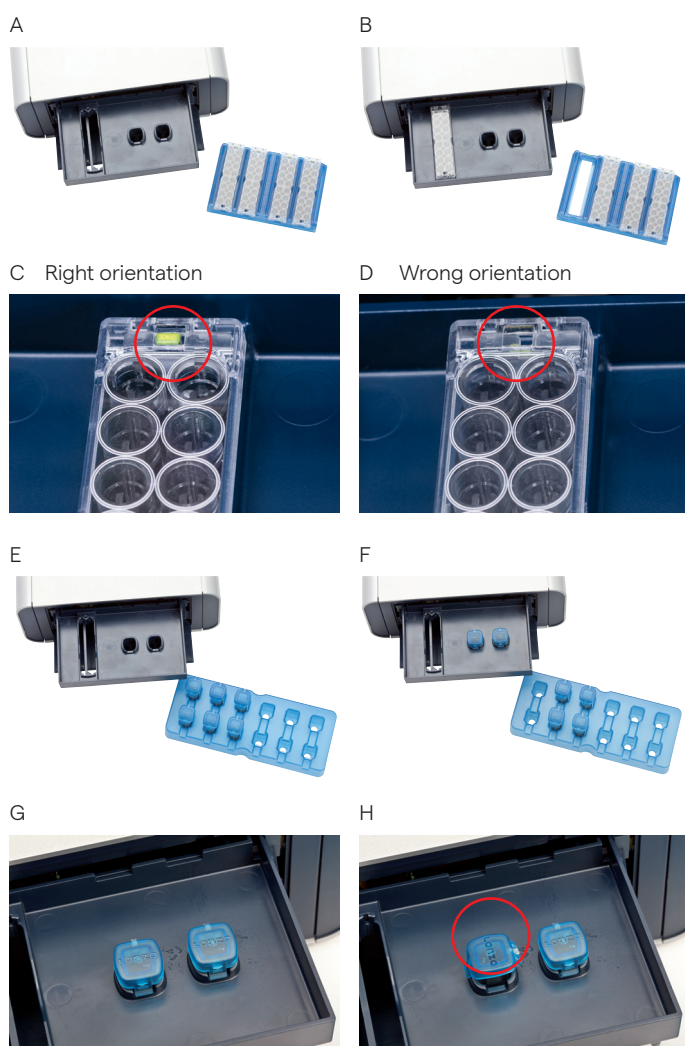

Figure 2.17: Loading vessels into 4D Nucleofector® X Unit
1. Load the 16-well Nucleocuvette® Strip (Figure 2.17, A, B) or one or two 100 µL Nucleocuvette® Vessels into the sample tray (Figure 2.17, E, F)
For the 16-well Nucleocuvette® Strip, the yellow pin at the rear end of the strip must be visible (Figure 2.17, C). If the strip is mounted in the wrong orientation, its rear end will stay above the strip holder and the yellow pin is barely visible (Figure 2.17, D). For the 100 µL Nucleocuvette® Vessel, the cuvettes should be mounted such that the label Lonza on the lid is readable and the opening clip is at the front (Figure 2.17, G, H).